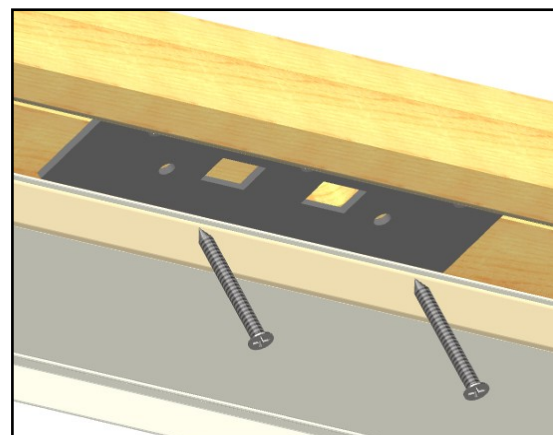

Figure 12
- Just like the head clip screws, pre-drill into the header for a #10 X 2 1/4" screw and apply the 2 screws. (Fig. 12)